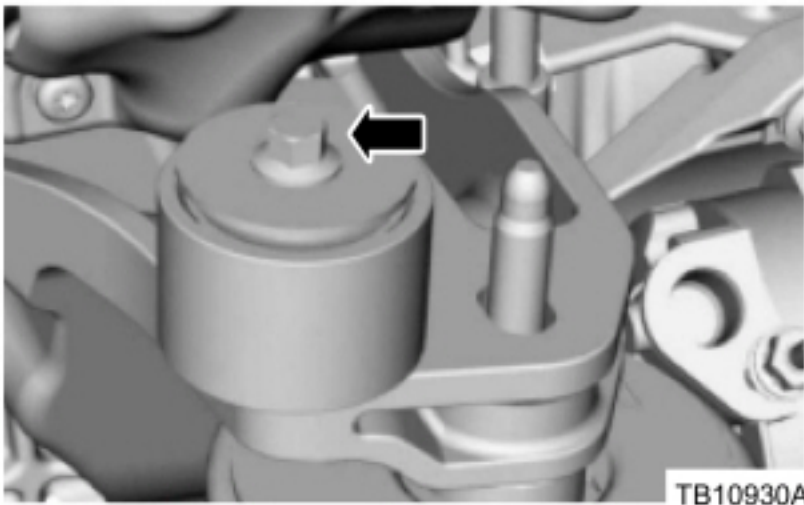

Figure 1 - 16-0121
- Remove the vibration dampener from the right engine mount. (Figure 1)